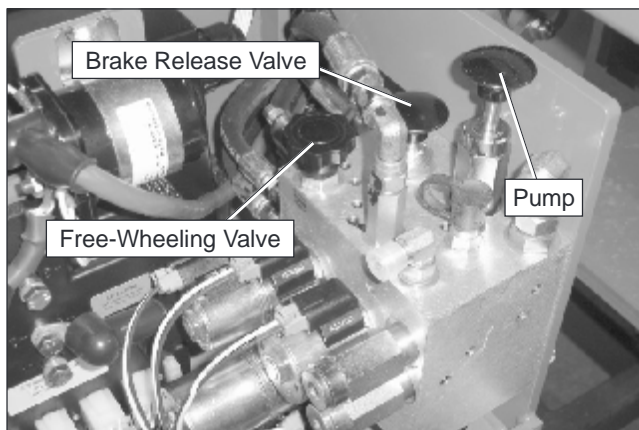

Figure 10.3 – S1930E/S1932E Hydraulic Tray
6. Unlatch and swing out the hydraulic tray on the right side of the chassis. The brake release valve, pump, and free-wheeling valves are located on the hydraulic manifold on the S1930E and S1932E machines (refer to Figure 10.3).